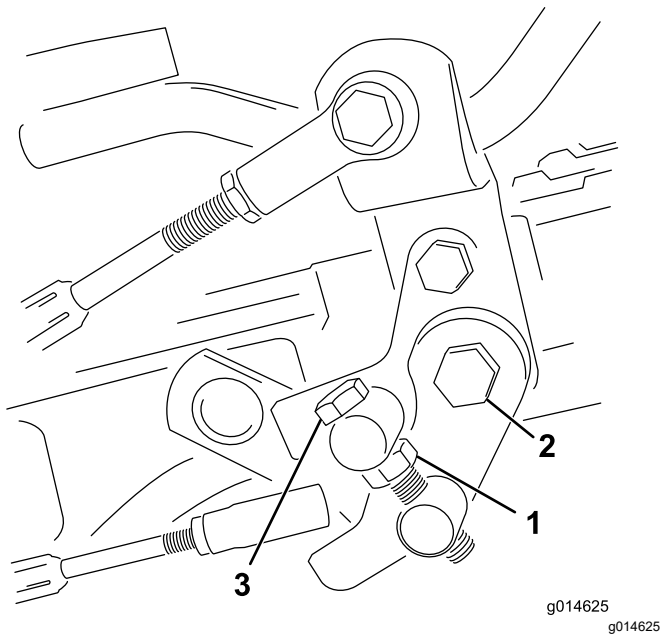

Figure 54
1. Loosen the jam nut on the trunnion bolt (Figure 54).
4. Tighten the jam nut on the trunnion bolt and the nut on the pedal pivot to lock the adjustment (Figure 54). Check the adjustment and adjust as required.